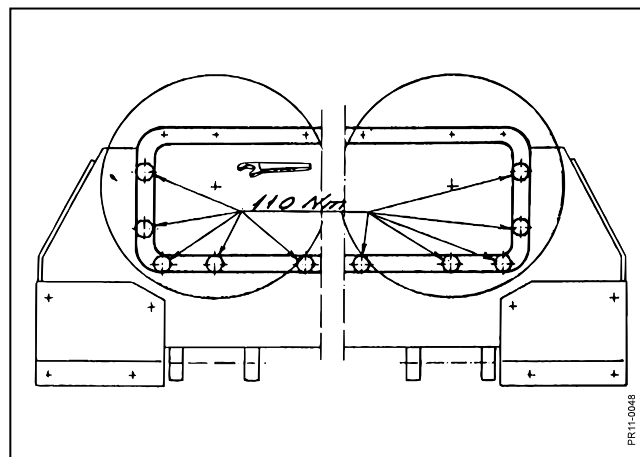

Fig. 5-4
**Fig. 5-4** To avoid damage caused by vibrations the cutter bar must be tightened properly. M12 bolts: 110 Nm (11 Kpm) and M10 bolts: 70 Nm (7 Kpm). Bolts at the cutterbar ends **MUST** be checked regularly.